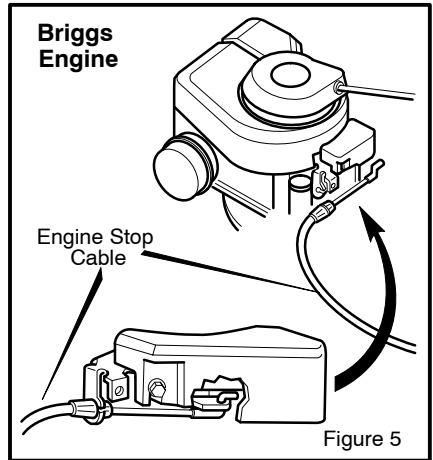
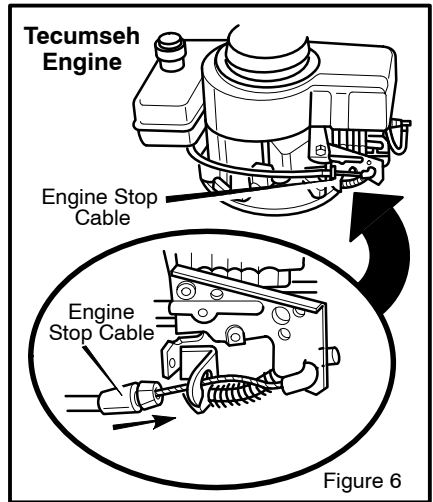

Figure 5
Figure 6
3. Attach the **engine stop cable** to the engine. Models with Briggs & Stratton engines are shown in Figure 5. Models with Tecumseh engines are shown in Figure 6.